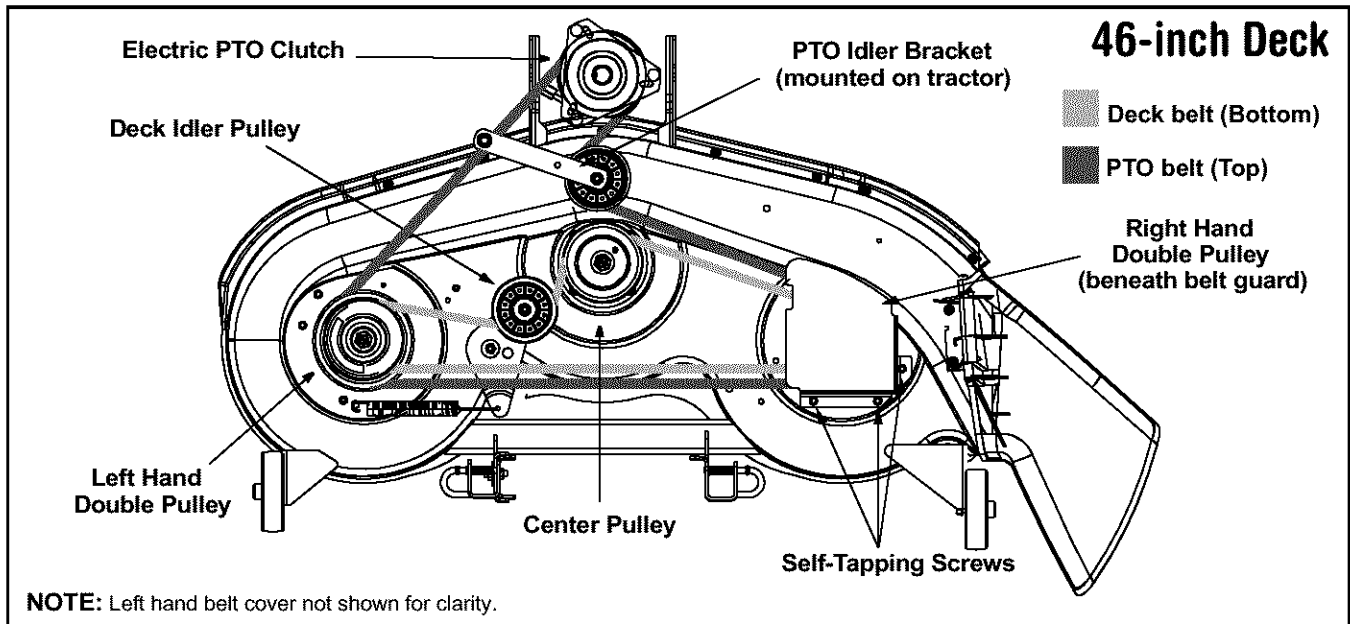
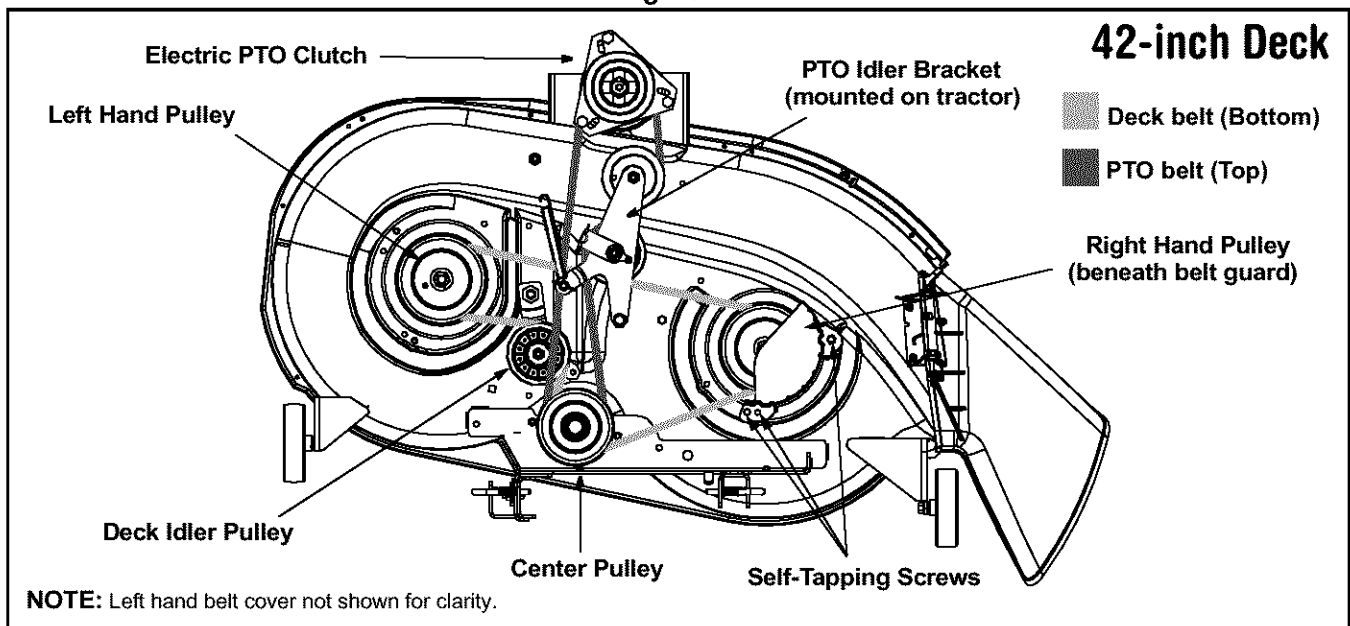

Figure 21
Figure 22
- Route the new belts as shown in Figure 21 (46-inch decks) or Figure 22 (42-inch decks).
- Grasp the PTO idler pulley bracket and pivot it toward the discharge chute to relieve tension on the PTO belt. Refer to Figure 21 and Figure 22.
- Remove the PTO belt from around the electric PTO clutch. Refer to Figure 21 and Figure 22.
- Remove the hex bolt from the center of the electric PTO clutch and gently lower it off of the engine crankshaft. Refer to Figure 21 Figure 22.